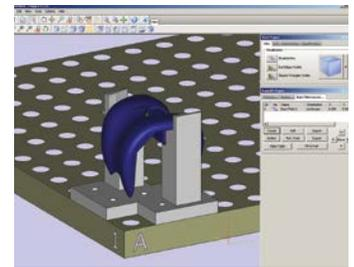

Figure 1: In RapidFit, orient the part (blue) and grid plate. The contact elements (gray) are created automatically.
2. Begin the design by positioning the part, grid plate, pillars and beams in the desired configuration (figure 1).